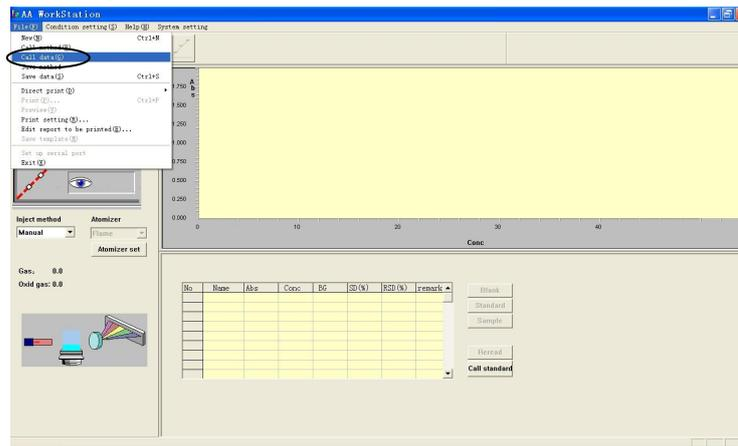
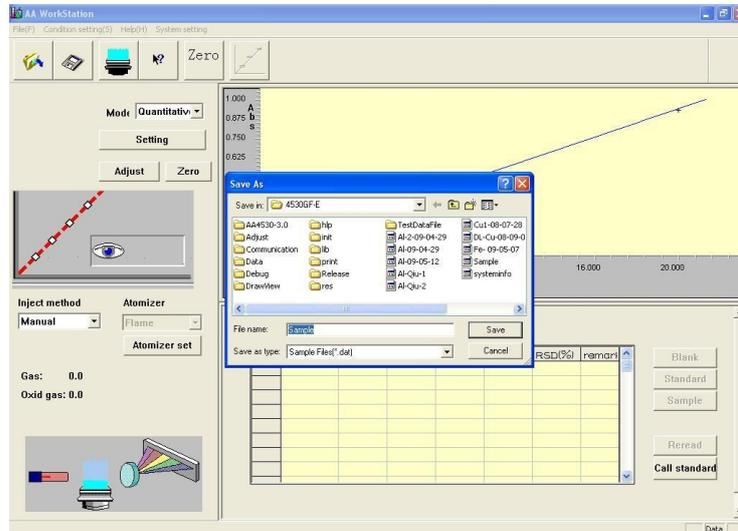

Figure 7-1
Figure 7-2
1. Select "Call data" as shown in Figure 7-1. Alternatively, press the "Open" button on the toolbar. See Figure 7-2.